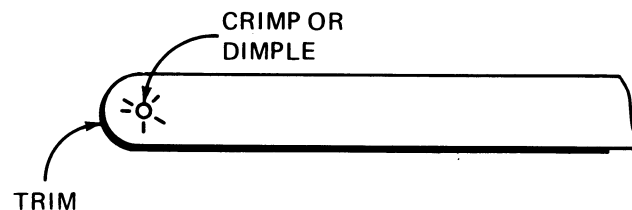

Figure 4-3. End-of-Tape Trimming and Crimping
2. Crimp the tape with a crimping tool or a Honeywell Tape End Cutter, which also performs this function. (See Figure 4-3).